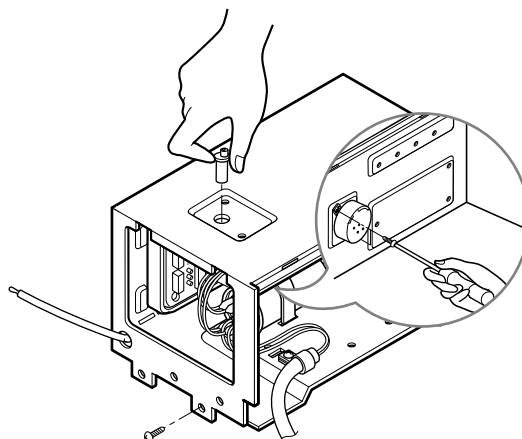

Figure 30
5. Re-install the components by referring to the removal procedure above. (See Figure 30)
5. Remove the 2 screws which fasten the synchronous motor. (See Fig. 30)